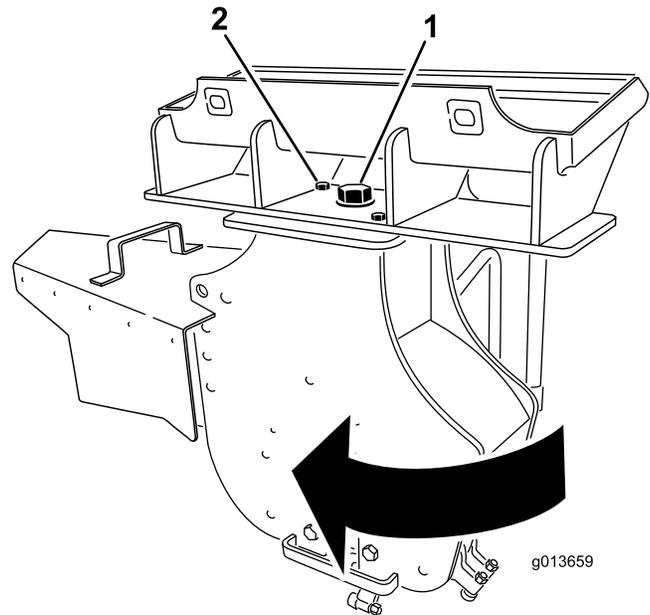

Figure 10
3. Loosen the large bolt on the top of the grinder (Figure 10).
4. Remove the front bolt and nut securing the grinder (Figure 10).
5. Swing the grinder 30 degrees clockwise (Figure 10).
6. Torque the large bolt on top of the grinder to 300 ft-lb (406 N-m) (Figure 10)
7. Install the bolt and nut in the front hole and torque them to 75 ft-lb (101 N-m) (Figure 10).
12. Loosen the large bolt on the top of the grinder (Figure 10).
13. Remove the front bolt and nut securing the grinder (Figure 10).
14. Swing the grinder 30 degrees counter-clockwise (Figure 10).
15. Torque the large bolt on top of the grinder to 300 ft-lb (406 N-m) (Figure 10).
16. Install the bolt and nut in the front hole and torque them to 75 ft-lb (101 N-m) (Figure 10).